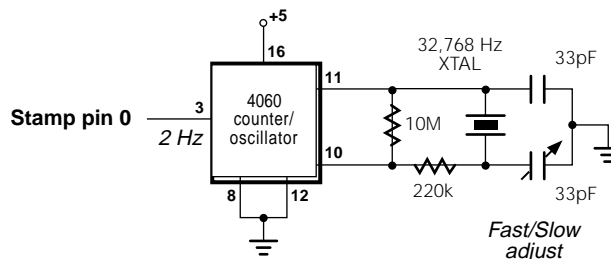

Figure 1. Schematic to accompany TIC\_TOC.BAS
**How it works.** The circuit in figure 1 shows how to construct a crystal-controlled, 2-pulse-per-second timebase from a common digital part, the CD4060B. This part costs less than \$1 from mail-order companies like the one listed at the end of this note. The 32,768-Hz crystal is also inexpensive, at just over 50 cents.
**Construction notes.** The circuit in figure 1 draws only about 0.5 mA, so you can power it from the Stamp's +5V supply without any problem. The resistor and capacitor values shown are a starting point, but you may have to adjust them somewhat for most reliable oscillator startup and best frequency stability. You may substitute a fixed capacitor for the adjustable one shown, but you'll have to determine the best value for accurate timing. The prototype was right on the money with a 19-pF capacitor, but your mileage may vary due to stray capacitance and parts tolerances.